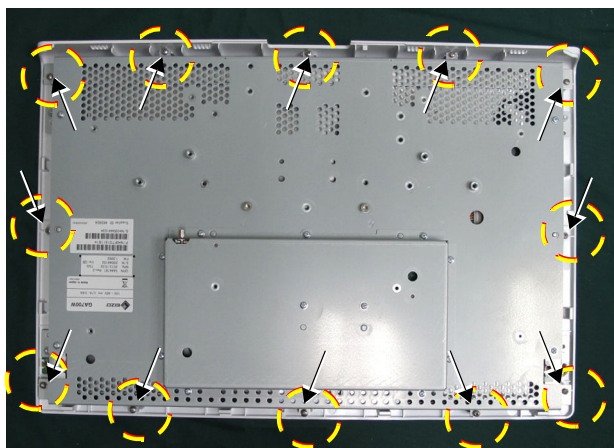

Figure 8-52 Monitor Front Cover Securing Screws
3.) Remove the 12 securing screws - Figure 8-52.
- 3.) Fasten the front cover onto the back of the monitor, using the 12 securing screws - Figure 8-52.